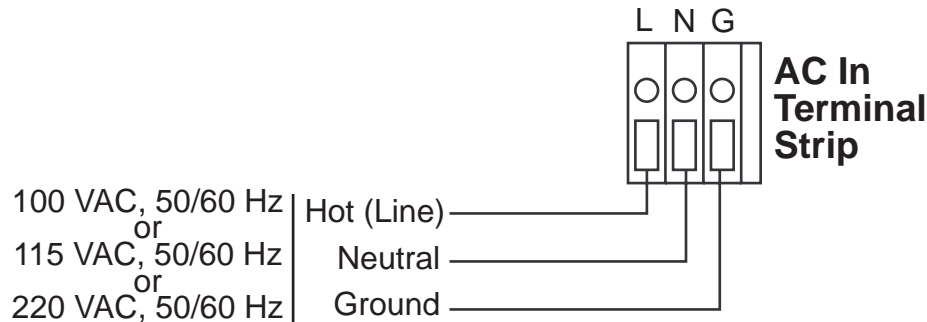

Figure 4: AC Power Wiring
6. Connect the AC wires to the AC power terminal strip as shown in Figure 4 below.